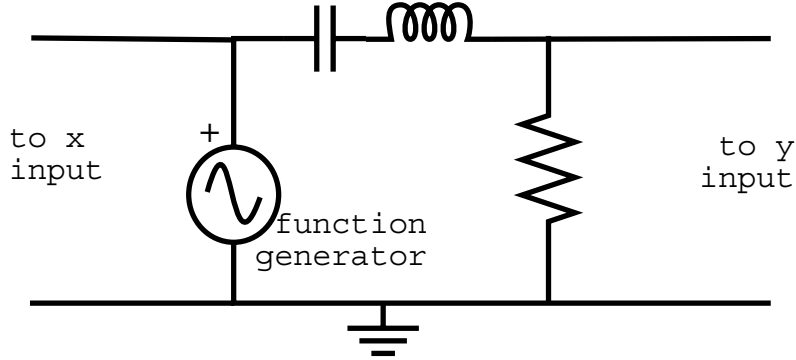

Figure 29: Resonant filter circuit
If we now use an inductor and a capacitor in series, as shown in the circuit of Figure 29, then the result is a resonant filter. The capacitor blocks the low frequencies and the inductor blocks the high ones, allowing only a band of intermediate frequencies to pass through.
4. Set up the circuit of Fig.29 using a resistor of about 470 Ω .